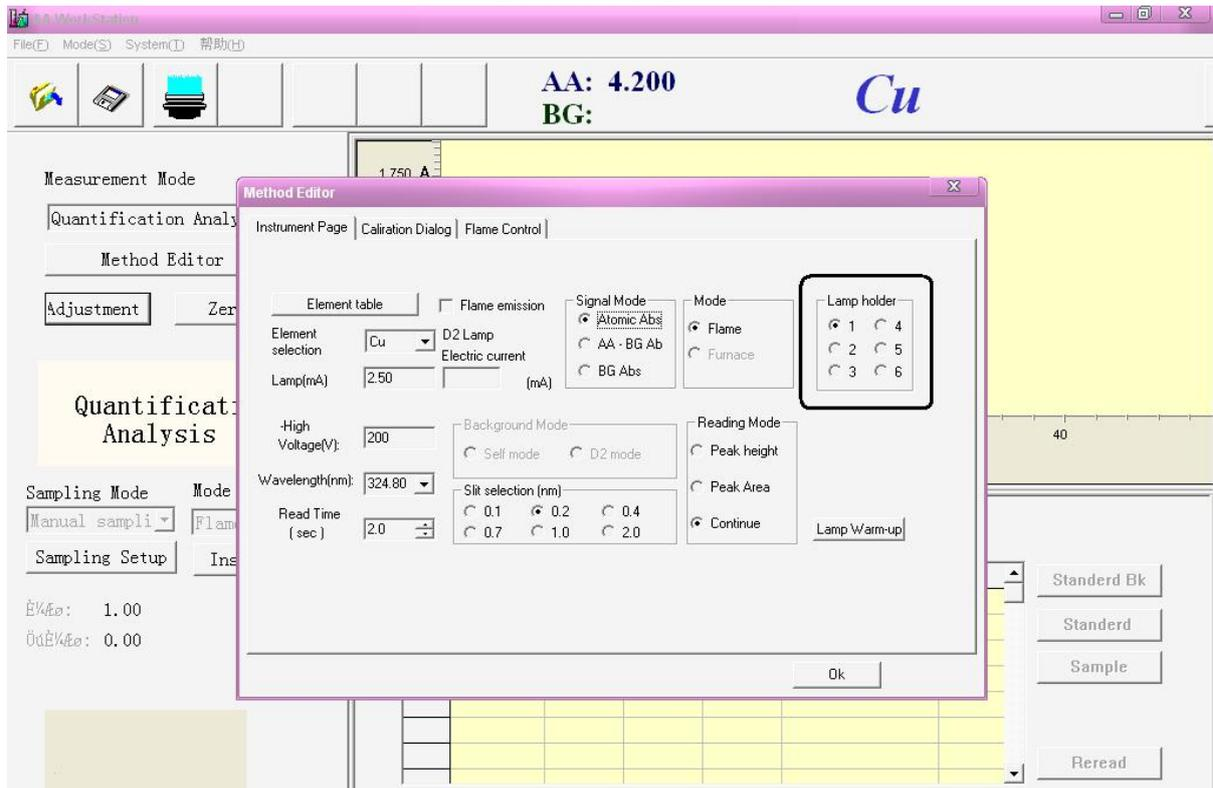

Figure 4-26
1. "Lamp Holder".only can select one among 1,2,3,4,5,6(Figure 4-26)